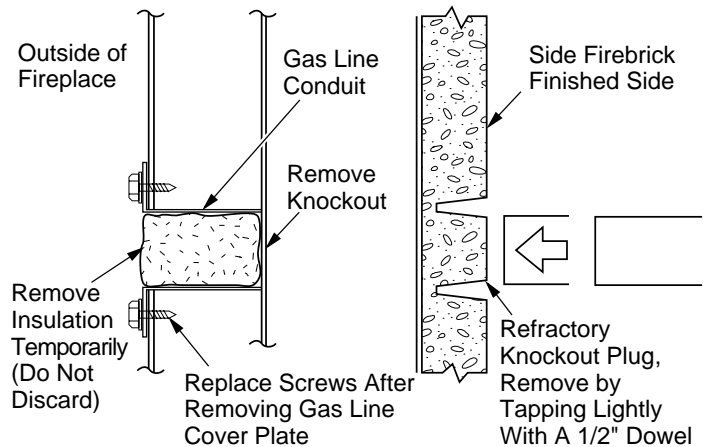

Figure 14 - Removing Knockout for Gas Line Installation
- To install, remove the knockout indentation on the refractor (or firebrick) wall located approximately 2 inches above the refractory hearth floor. The knockout indentation must be firmly tapped with any solid object until it is released. Remove fragmented portion of refractory (see Figure 14).